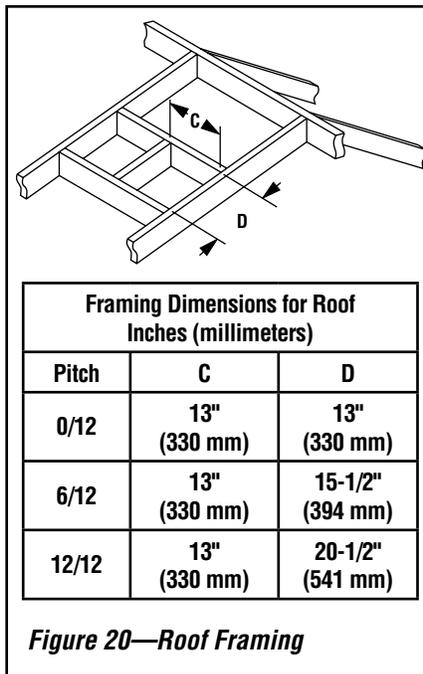

Figure 20—Roof Framing
Analyze the vent routing and determine the quantities of vent sections and number of elbows required. Refer to **Vertical Vent Figures and Tables on Page 18** to select the type of vertical installation desired. Vent sections are available in net lengths of 4-1/2" (114 mm), 10-1/2" (267 mm), 22-1/2" (572 mm), 34-1/2" (876 mm) and 46-1/2" (1181 mm). Refer to the **Vent Section Length Chart on Page 15** for an aid in selecting length combinations. Elbows are available in 90° and 45° configurations. Refer to **Figure 20 on Page 17** for the SV8 E45 and SV8 E90 elbow dimensional specifications.
H. Frame roof opening—Identify location for vent at the roof. Cut and/or frame opening per Roof Framing Chart (**Figure 20**).
Analyze the vent routing and determine the types and quantities of sections required 4-1/2" (114 mm), 10-1/2" (267 mm), 22-1/2" (572 mm), 34-1/2" (876 mm) and 46-1/2" (1181 mm) net section lengths are available. It is recommended that you plan the venting so that a joint does not occur in the ceiling or roof joists. Allow for elbows as indicated in **Figure 20 on Page 17**.